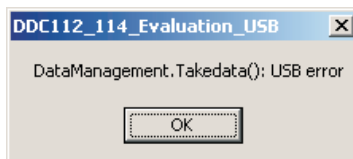

Figure 25. USB Error Notification Dialog
2. If you see a dialog box as shown in Figure 25, or an error message seen on main window status bar saying *Error Writing Registers*, this message indicates that the DDCMB is either not connected via USB or has not been properly detected by the system. Verify that the USB connection is good, or press the RESET_USB (S4) button on the DDCMB to allow communication to be established.